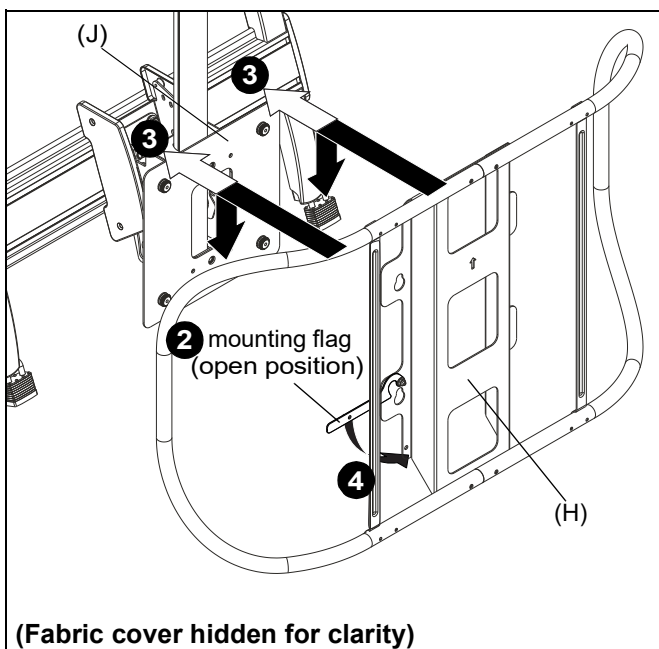

Figure 14
2. Make sure mounting flag on LCM upright (H) is in the "open" position. (See Figure 14)
3. Hang LCM upright (H) onto mounting buttons on back of LCM upright adapter (J). (See Figure 14)
4. Move mounting flag on LCM upright to the "closed" position. (See Figure 14)